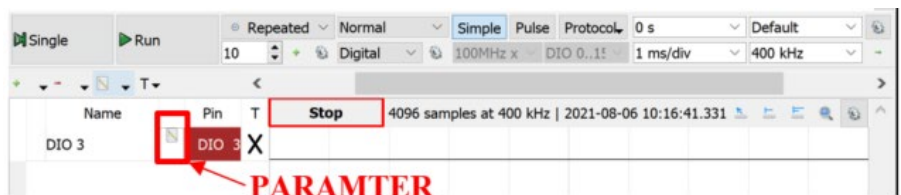

Figure 16: Logic Analyzer with Signal
**Setting up a Signal:** Configure Digital I/O signal 3 into an output signal by selecting the green +, signal, DIO3, and Add. You should now see something similar to Figure 16. Now select parameter (see Figure 16), type a name into the text box such as My Signal, and press ok. It is a good habit to name all of your signals. Notice that the box under IO has the number of the signal wire (in this case 3) and the color. This will apply to all signals. You can change the base based on the frequency of the input (to understand this, do the next exercise). To remove a signal, select the signal and press the red -.